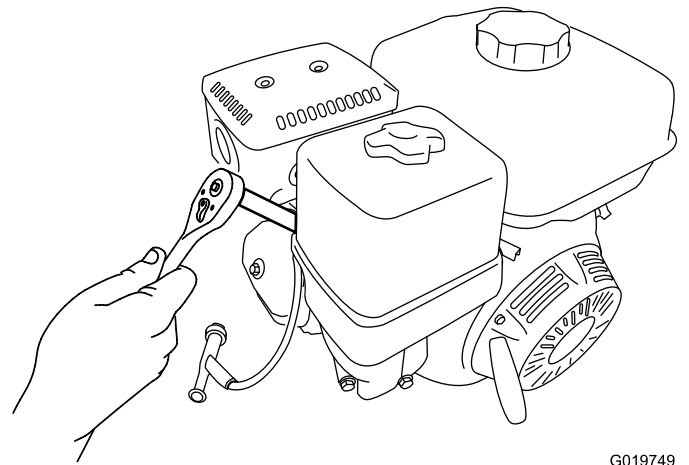

Figure 43
5. Rotate the spark plug counterclockwise using a 21 mm (13/16 inch) spark-plug wrench to remove the plug and the sealing washer (Figure 43).
2. Rotate the spark plug clockwise using a 21 mm (13/16 inch) spark-plug wrench until the plug and sealing washer are seated (Figure 43).